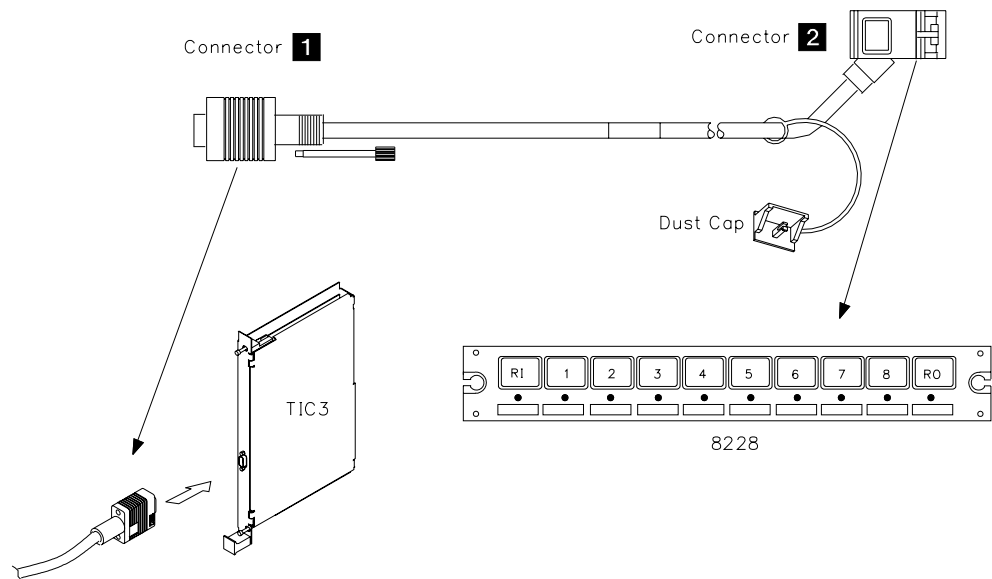

Figure 2-25. Connection of the 8228 to a TIC3
- e. ____ Plug connector **2** to one of the 8228 LAN adapter plugs 1 to 8 (Refer to Figure 2-25 below).